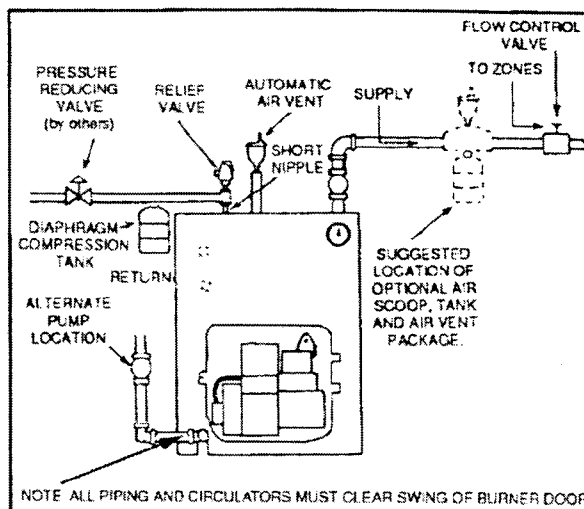
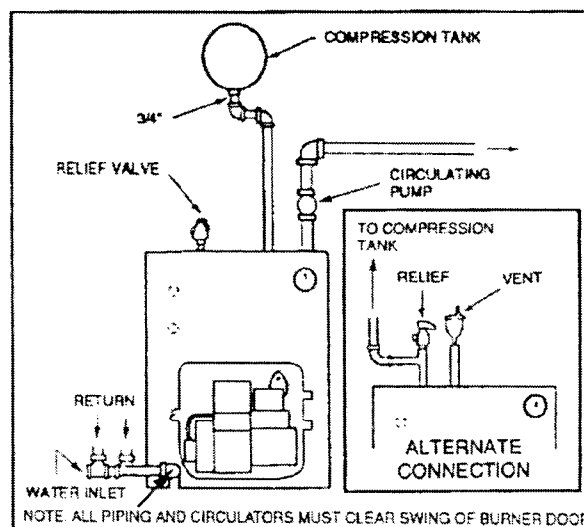

Figure 6. Air Eliminating System
Figure 7. Air Collecting System
- B. A **FLOW CONTROL VALVE** (See figure 6) will prevent gravity circulation and usually is required when tankless heater is installed.
- A. **DIAPHRAGM-TYPE COMPRESSION TANKS** are used to control system pressure in an **AIR ELIMINATING SYSTEM**: an automatic air vent is used to REMOVE air from the system water. See figure 6. If system pressure needs further control, add an additional tank or install a larger capacity tank. The automatic air vent should be installed in the top of the boiler, as in figure 6.
- B. **CONVENTIONAL COMPRESSION TANKS** (non-diaphragm type) are used to control system pressure in an **AIR COLLECTING SYSTEM**. Within the system, after initial start-up and venting, air is collected in the tank and acts in contact with the water to control pressure. Air is not vented from this system. If system pressure needs further control, add another tank in parallel with the original tank or install a large capacity tank. Locate the tank at the inlet end of the pump near the boiler. (See figure 7)
D. **PUMP LOCATION** - Locating low-head pump(s) on return to boiler is only acceptable in residences of one or two stories. (See figure 6) The pump location shown in figure 7 is required in large, multi-story building installations, especially when high-head pumps are used and is also recommended for all applications.
E. A conventional compression tank may be connected to the 3/4" tapping as shown in figure 7.
IMPORTANT: Hot water heating systems containing high water volume, such as would occur with cast-iron radiation, require special care with air elimination. The circulator pump should be located on the boiler supply pipe and the expansion tank and air scoop should be located near the pump suction. (See Figure 6, Alternate Pump Location.)